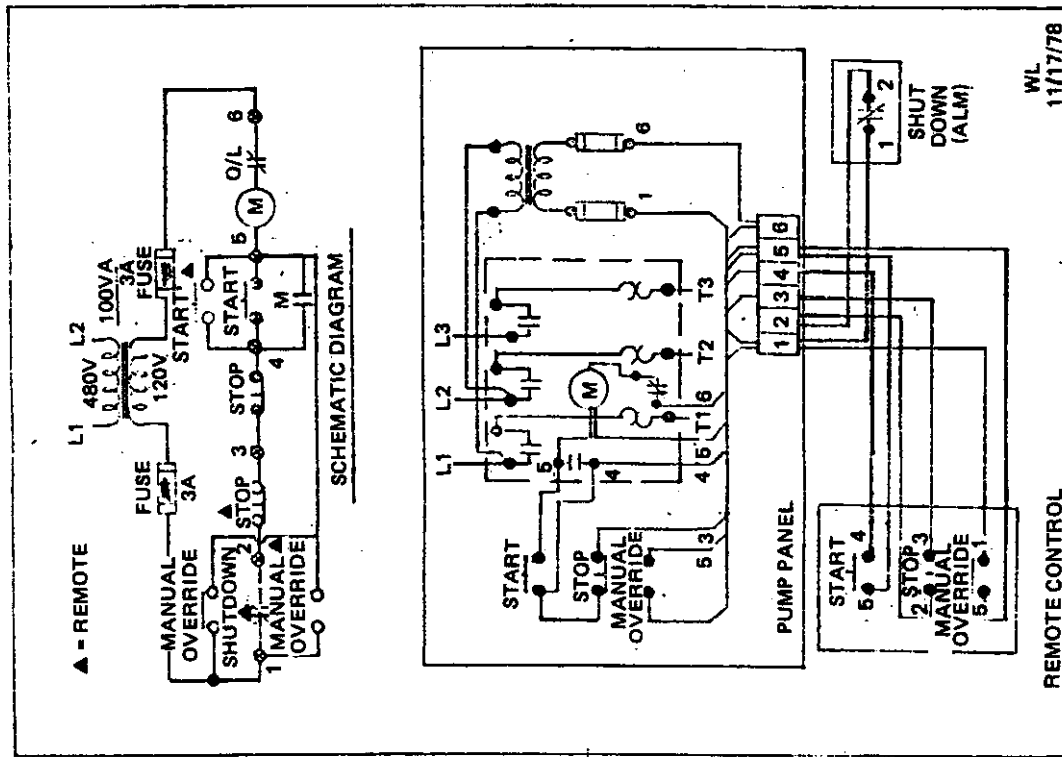

FIGURE A-3
A.2.3.1.2 Power Source. A 450v, 3-phase, electrical control box for each pump is mounted on the forward bulkhead of the deckhouse. A step-down transformer in each box supplies single phase 120v AC power for the switchgear. A schematic wiring diagram is shown in Figure A-3. Start, stop and manual override switches are provided on the box covers and on remote switch boxes mounted near the cargo valve deck stands, beside the deckhouse on the starboard side.
A.2.4.2 Power Sources. The level alarm and gauge light system run entirely on 24v DC. However, the pump cutoff relay acts to open a 120v AC switch that is mounted in the panel (see Figure A-3). A circuit breaker on the panel front also serves as an on/off switch for the system.